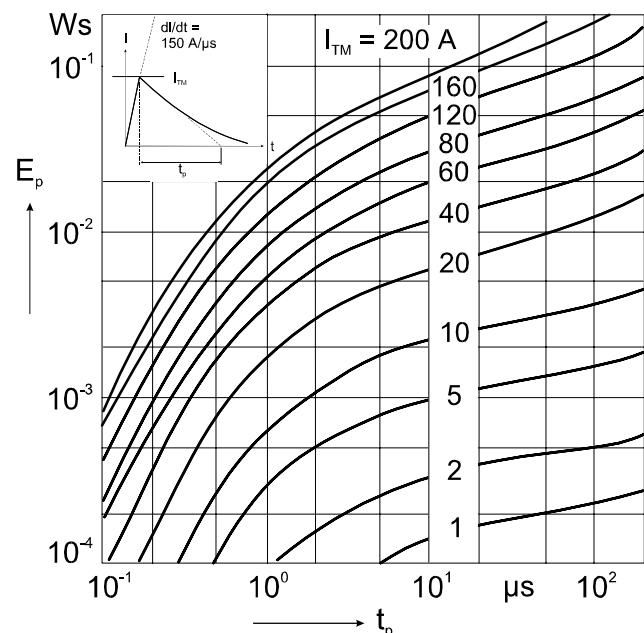

Fig. 6 Energy per pulse for single BOD element for exponentially decaying current pulse.  $E_p$  must be multiplied by number of elements for total energy.
- a. The maximum junction temperature shall be calculated for a module IXBOD 1 -30R at an ambient temperature  $T_a = 60^\circ C$ , an exponentially decaying current  $I_{TM} = 40A$ , a pulsewidth  $t_p = 2 \mu s$ , an operating frequency  $f = 50 Hz$  and natural convection. From the diagram Fig. 6 the energy per pulse is obtained: